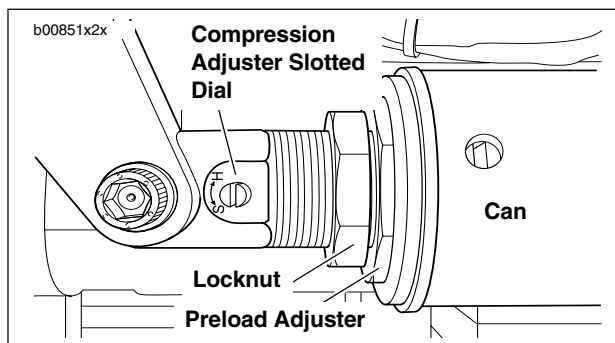

Figure 1-28. Rear Shock Preload Adjustment
- b. See Figure 1-28. To decrease preload, move the can towards the front of the motorcycle. To increase preload, move the can towards the rear of the motorcycle.